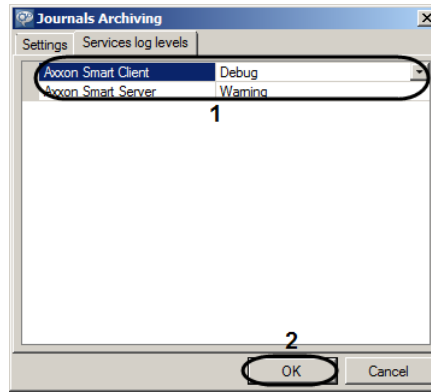

Fig. 8.2—3 Configuring journaling levels
1. Select the desired journaling level of the client (Axxon Smart Client) and the server (Axxon Smart Server) (Fig. 8.2—3, 1, Table 8.2—2).